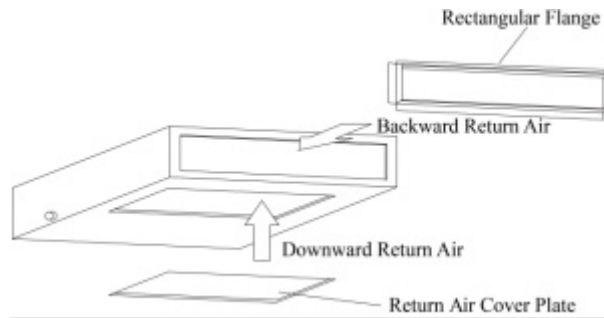

Figure 11: Location of the Rectangular Duct Mounting Flange
1. The default installation location of the rectangular duct mounting flange is located at the rear and the return air cover plate is at the bottom of the unit, as shown in Figure 11.